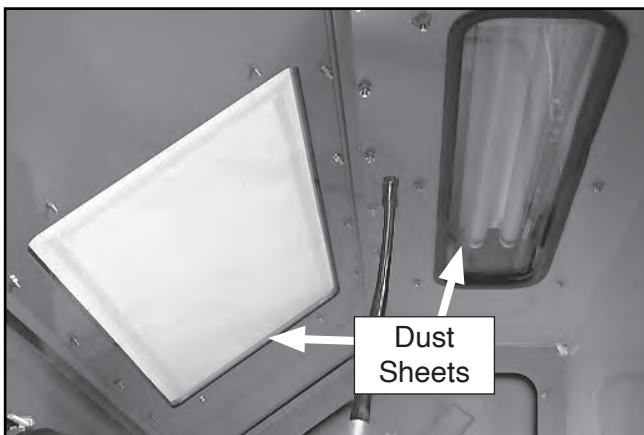

Figure 14. Location of dust sheets.
- Verify that plastic dust sheet is affixed to inside of cabinet viewing window and light window (see **Figure 14**).